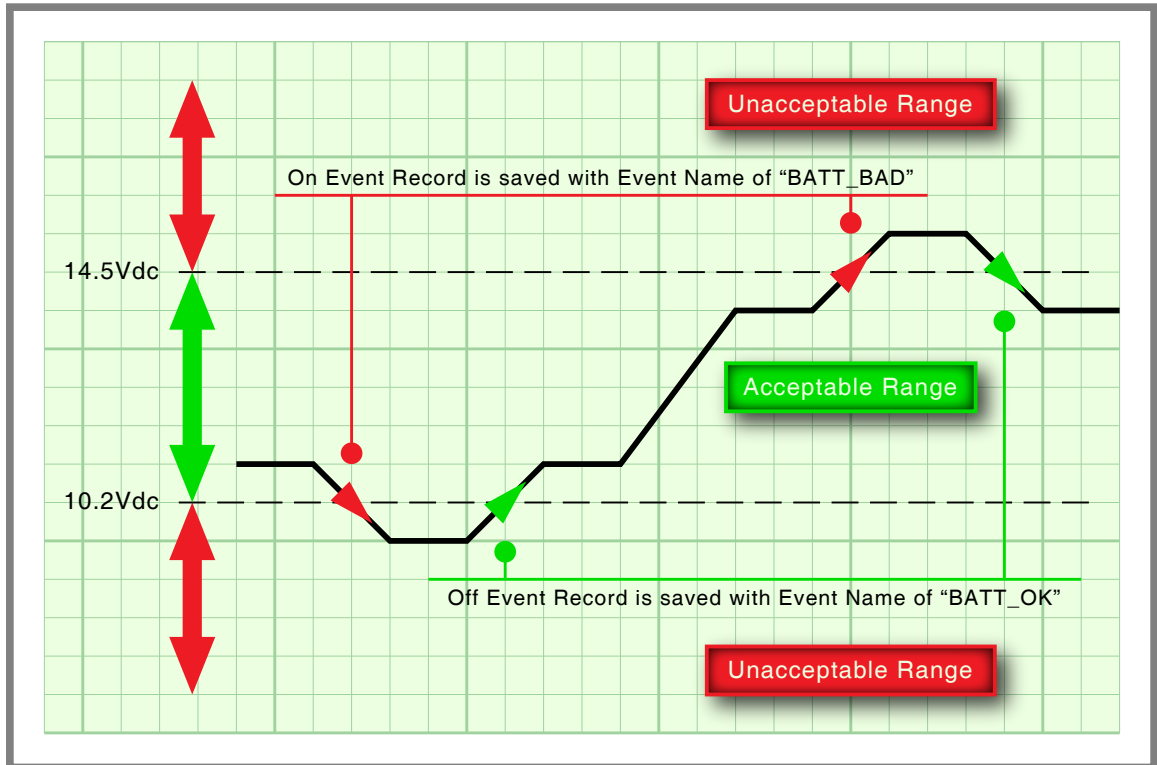

Figure 4: Analog Input Operating Ranges and Limit Values
Figure 4 on page 27 illustrates the relationship of the High and Low Limit Values to the Analog Input state. Each range defines the type of Event Record that is created by transitions of the input. The figure depicts an Analog Input configured to monitor a typical 12Vdc battery source. The figure indicates that the unacceptable range includes all voltages less than 10.2Vdc and all voltages greater than 14.5Vdc. The unacceptable range always consists of two portions separated by the acceptable range. If the input is within the range extending from 10.2 to 14.5Vdc the battery voltage is considered to be acceptable.
**On**—The Digital Input is defined as a logical 1 by the Microlok II. The Analog Input level is outside the acceptable range as defined by the region between the Limit Values (refer to Figure 4 on page 27). The Virtual Input evaluates to a true logic state. The Timer Input has reported a timed interval that is either too fast or too slow as compared to its assigned High and Low Limit Values, respectively (refer to the section entitled "Timer Inputs \(W\)" on page 27).